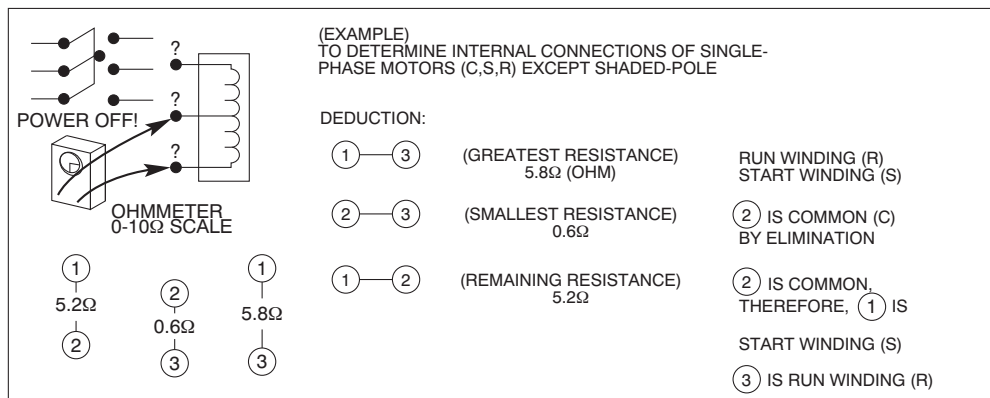

Figure 18 – Identifying Compressor Terminals
Through elimination, remaining terminal must be common (C). Greatest resistance between common (C) and another terminal indicates start winding because it has more turns. This terminal is start (S). Remaining terminal will be run winding (R). (See Figure 18.)